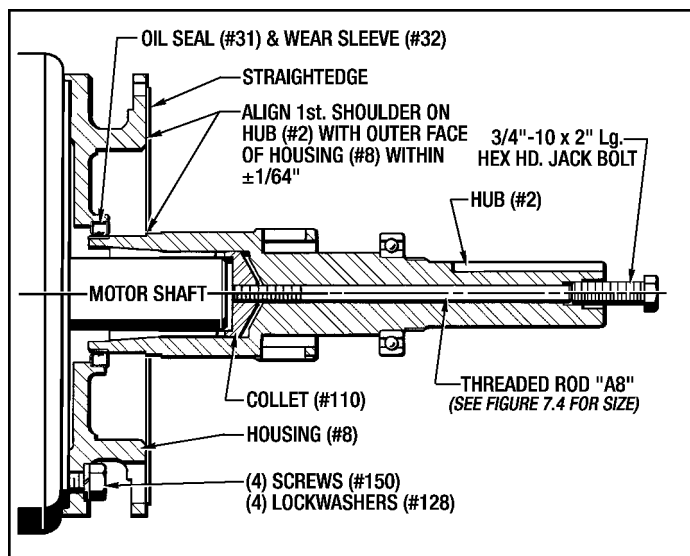

Figure 9.11 - Installing Hub (#2) on MB-320 Coupler Brake
1. Place the Collet (#110) on the motor shaft as far as it will go. (See Figure 9.11)
4. Using a steel straight edge, align the **1st. Shoulder** of the Hub (#2) with the **Outer Face** of Housing (#8) within $\pm 1/64"$ as shown in Figure 9.11.
5. Install the correct Threaded Rod into the Collet (#110) approx. 4 or 5 turns. **Hand tighten** the Jack Bolt into the end of the Hub (#2) just until it makes contact with the Threaded Rod. **Do not tighten any further.** (See Figure 9.11 below.)